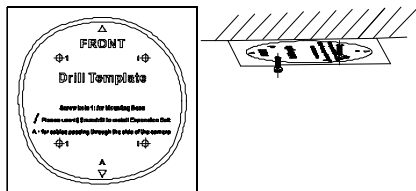

Figure 2-44 Attach the Drill Template
2. Drill a cable hole in the ceiling according to the circle A on the template if you want to route the cables through the ceiling, as shown in Figure 2-44.